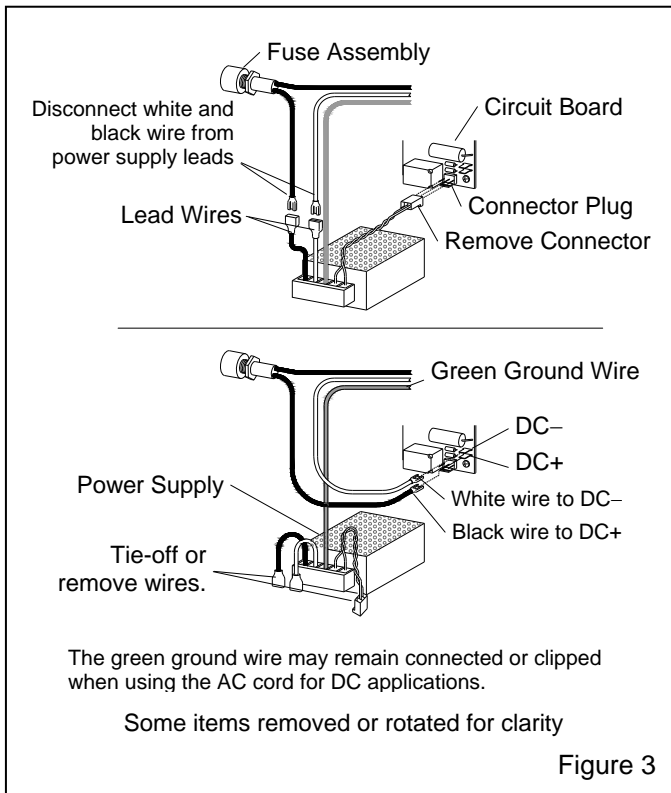

Figure 3
The AC power cord provided with the monitor may be used, using *black* as the positive. A user supplied DC 2-wire cord may be used, using *red* as positive. If a new 12-volt cord is used, splice the positive through the fuse, and use the spade on the outlet of the fuse to connect to the positive terminal, as shown Figure 3.
2.3.5 Remove the connector with *red* and *black* wires from the plug on the circuit board, as shown in Figure 3. If there is a chance the monitor will be converted back to AC power, tie the wires out of the way. If the monitor is to be permanently converted to 12-volts, pop off the clear terminal cover and remove the wires from the terminal.
2.3.6 Disconnect the white and black wires from the power supply lead wires at the connectors, as shown in Figure 3.
2.3.7 Plug the *black* wire onto the DC+ post at the lower left corner of the circuit board, as shown in Figure 3. Note the board is upside down when the cover is open. Plug the *white* wire onto the DC- post.